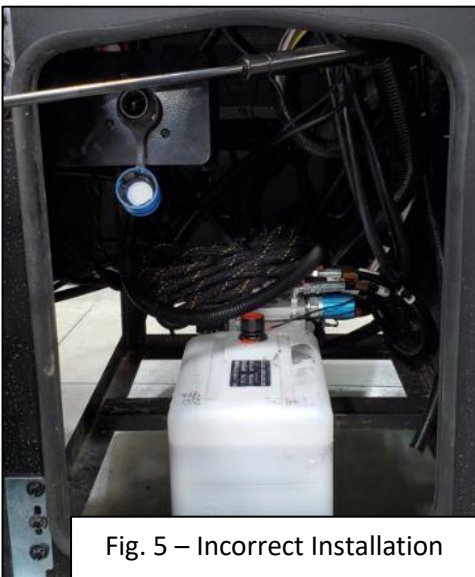

Fig. 5 – Incorrect Installation
5. If installation is as figure 5, then follow the repair below.
- A. Remove the strut securement from the right side of the door opening. (Figure 5)